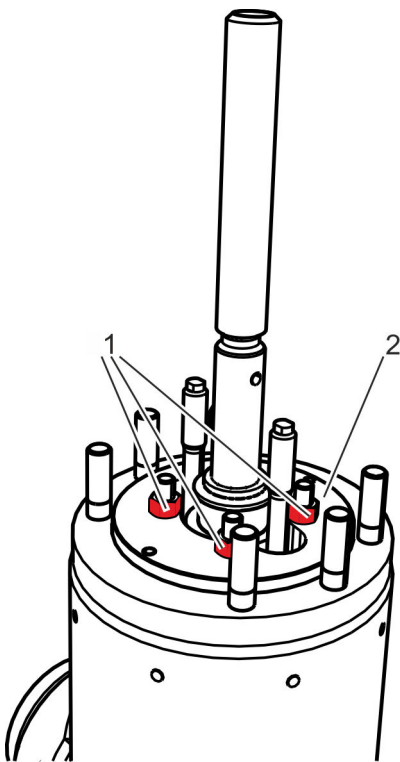

Fig. 33: Screw fastening the nuts of the clamping lid
- 20.** ▶ If present, place the clamping lid (Fig. 33/2) on from above.
Screw the clamping lid (Fig. 33/2) in a cross pattern with nuts (Fig. 33/1) on the stud bolts.